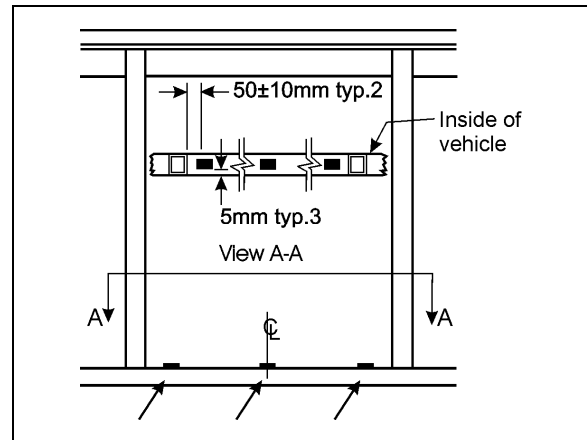

FIGURE 70: AWNING WINDOW - RUBBER BUMPER INSTALLATION
6. Glue on the structure horizontal member, 3 rubber bumpers (#790597) (see FIGURE 70) [50mm≈2"].